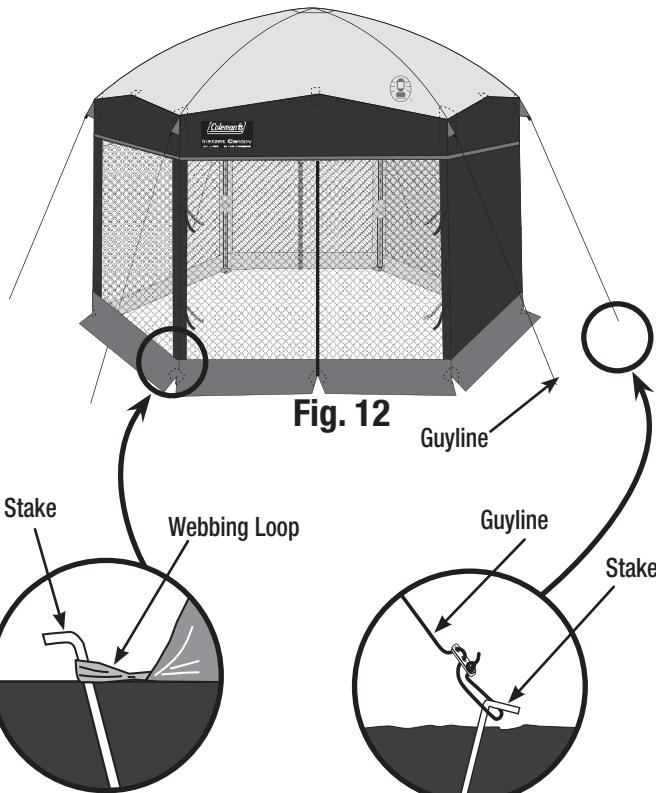
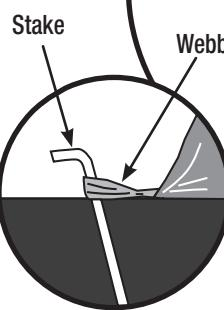

Fig. 12
Fig. 13
- Secure screenhouse by driving stakes through the webbing loops sewn to the screenhouse base. (Fig. 12 and Fig. 13)